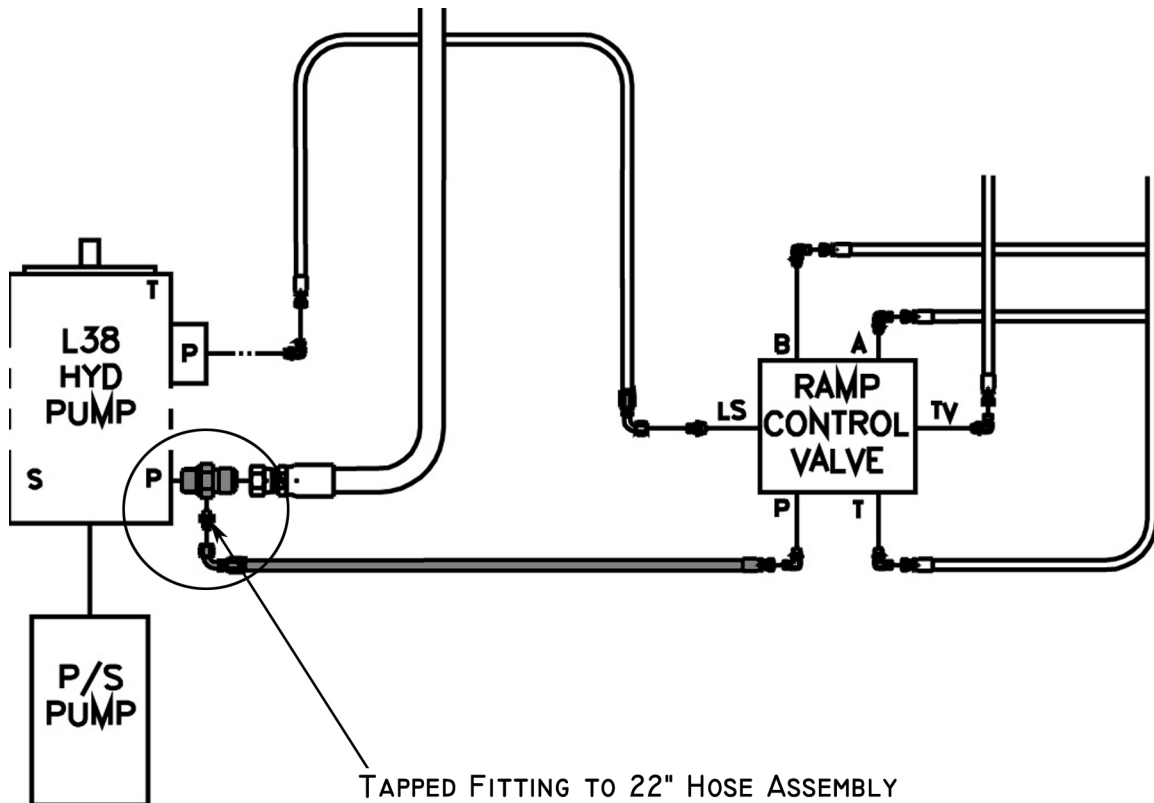

FIGURE 1-1 OLD HYDRAULIC FITTING CONFIGURATION
- a. If the hydraulic fitting and hose assembly resembles the configuration in Figure 1-1, continue with **“Component Replacement”** on page 4.
2. Place a clean container under the L38 hydraulic pump assembly and remove the existing straight connector from the pump. (See Figure 1-1)
3. Place another clean container under the ramp control valve and disconnect the hose assembly from the ramp control valve. (See Figure 1-1)